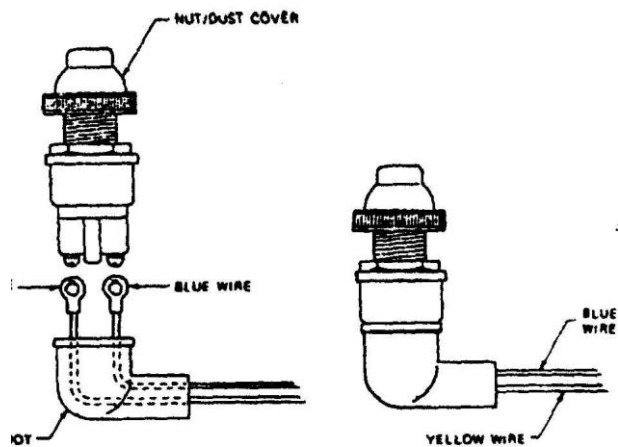

FIGURE 4
4. Install the black rubber boots* on the switch end of the yellow wire* and the blue wires*. Remove starter switch from its mounting position and install the blue and yellow wires*. (See figure 4) Slide the rubber boot onto switch body and reinstall the switch. Then, reinstall the nut/dust cover and tighten securely.